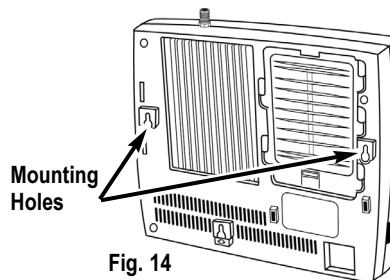

Fig. 14
- 4) Locate the two mounting holes on the back of the Phonecell – see **Figure 14**.